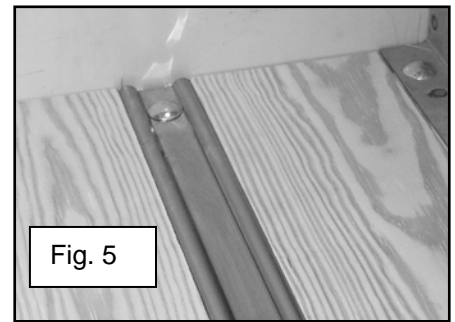

Fig. 5
15. Place a bed strip in the grooves between these boards. The front of the bed strip has a hole at 1-7/8" approximately. Holes in the bed strip should line up with the cross sills and the rear sill. See figure 5. *If using MAR-K's custom bed strips with hidden fasteners, follow the instructions supplied with the bed strips for correct installation.*